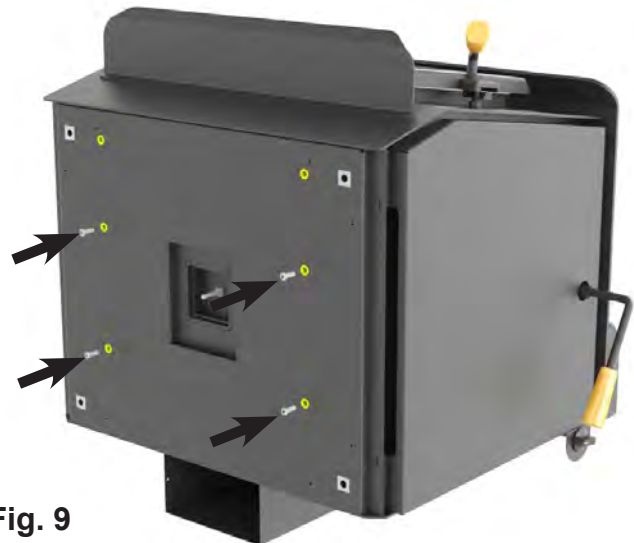

Fig. 9
3. Thread all four 1/4"-20 button head cap screws into the stove base until halfway in (included w/ Pedestal Kit). (Fig. 9)